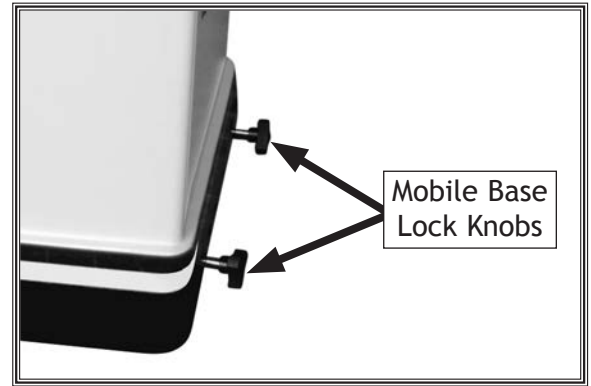

Figure 10. Mobile base lock knobs installed.
4. Install (2) mobile base lock knobs (see **Figure 10**) so jointer will not easily move.